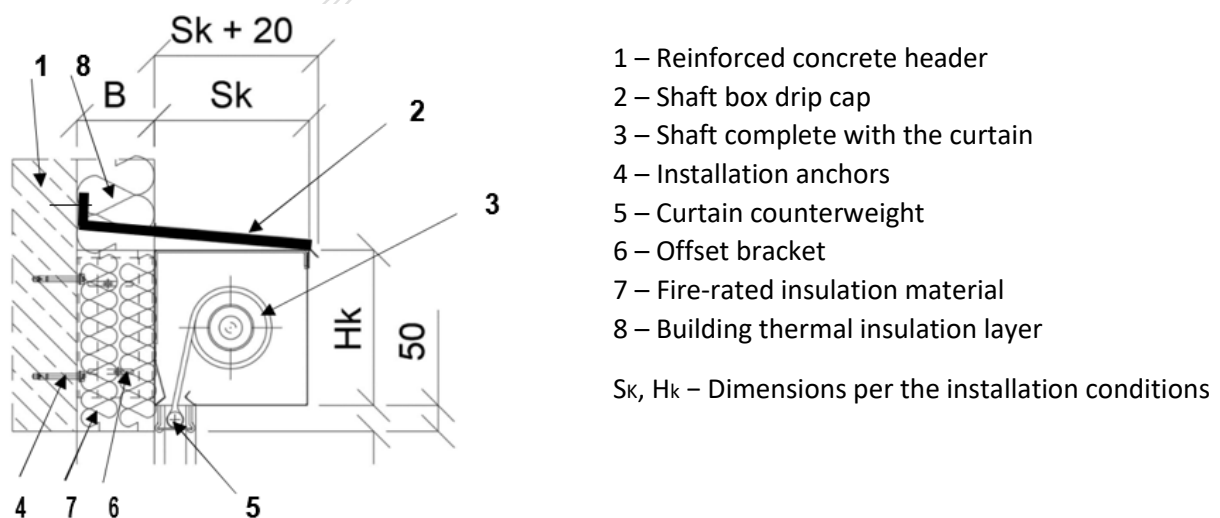

Fig. 22. Indirect installation of the EI60 curtain door shaft box with a drip cap on the reinforced concrete
- Follow from Section 2.1 (9).
- Roll up the curtain and install 20mm thick Promat fire-proof panels on the shaft box curtain extension end (Fig. 22).